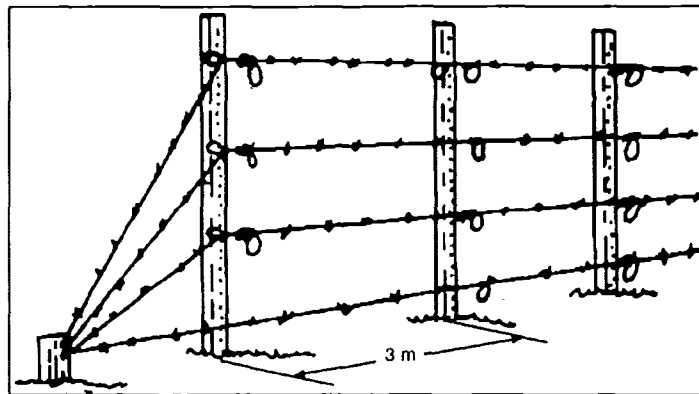

Figure 052-195-3066-5. Four-Strand Cattle Fence
(1) Ensure an anchor picket (short picket) is installed at each end of the fence.
(2) Ensure the long pickets are installed 3 meters apart (figure 052-195-3066-5).